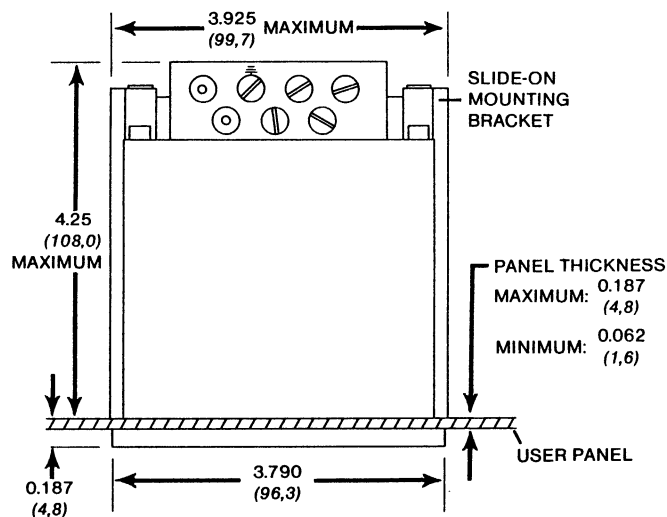

Figure 2a. MDTR Dimensions, Top View
4. From behind the unit and mounting panel, slip the plastic mounting slides into the MDTR's side panels' center grooves. (See Figure 2a.)